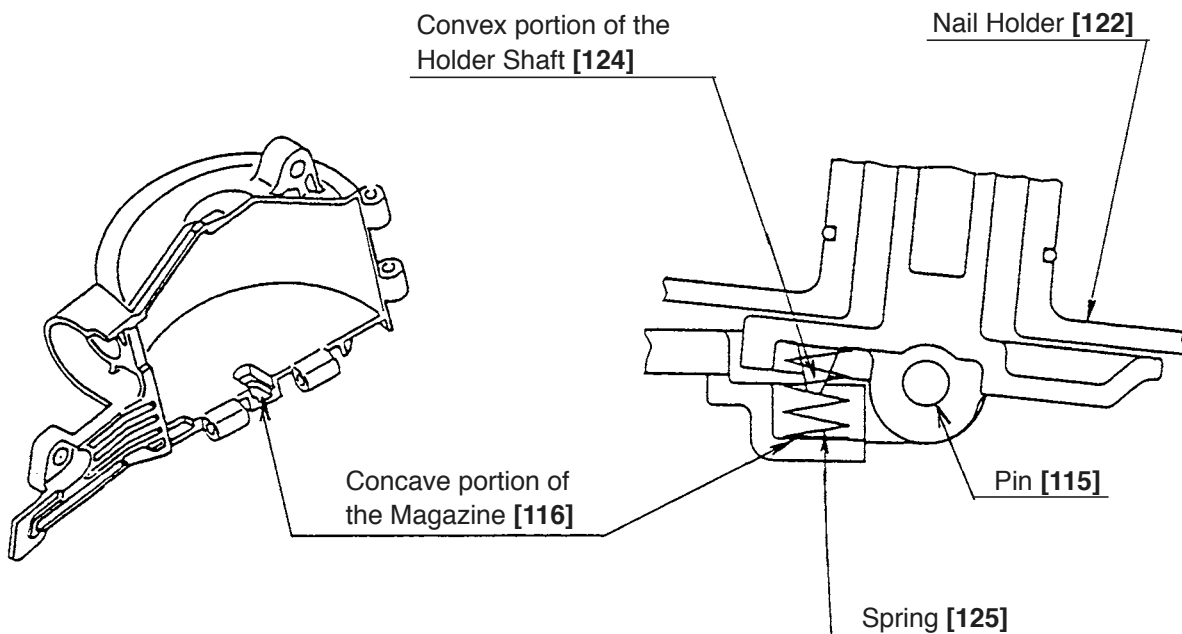

Fig. 27
- When mounting the Holder Shaft [124] to the Magazine [116], check that the Spring [125] is securely inserted between the concave portion of the Magazine [116] and the convex portion of the Holder Shaft [124], then insert the Pin [115] (Fig. 27).